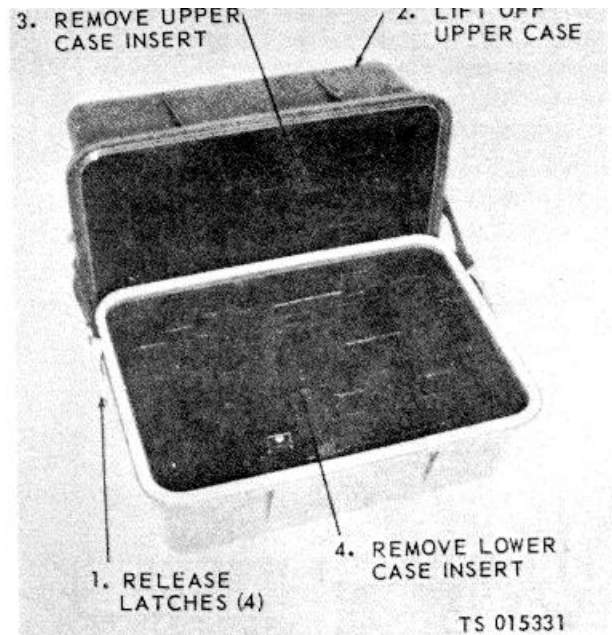

Figure 4-5. Carrying case inserts, removal and installation.
(1) *Removal.* Refer to figure 4-5 and remove the inserts.